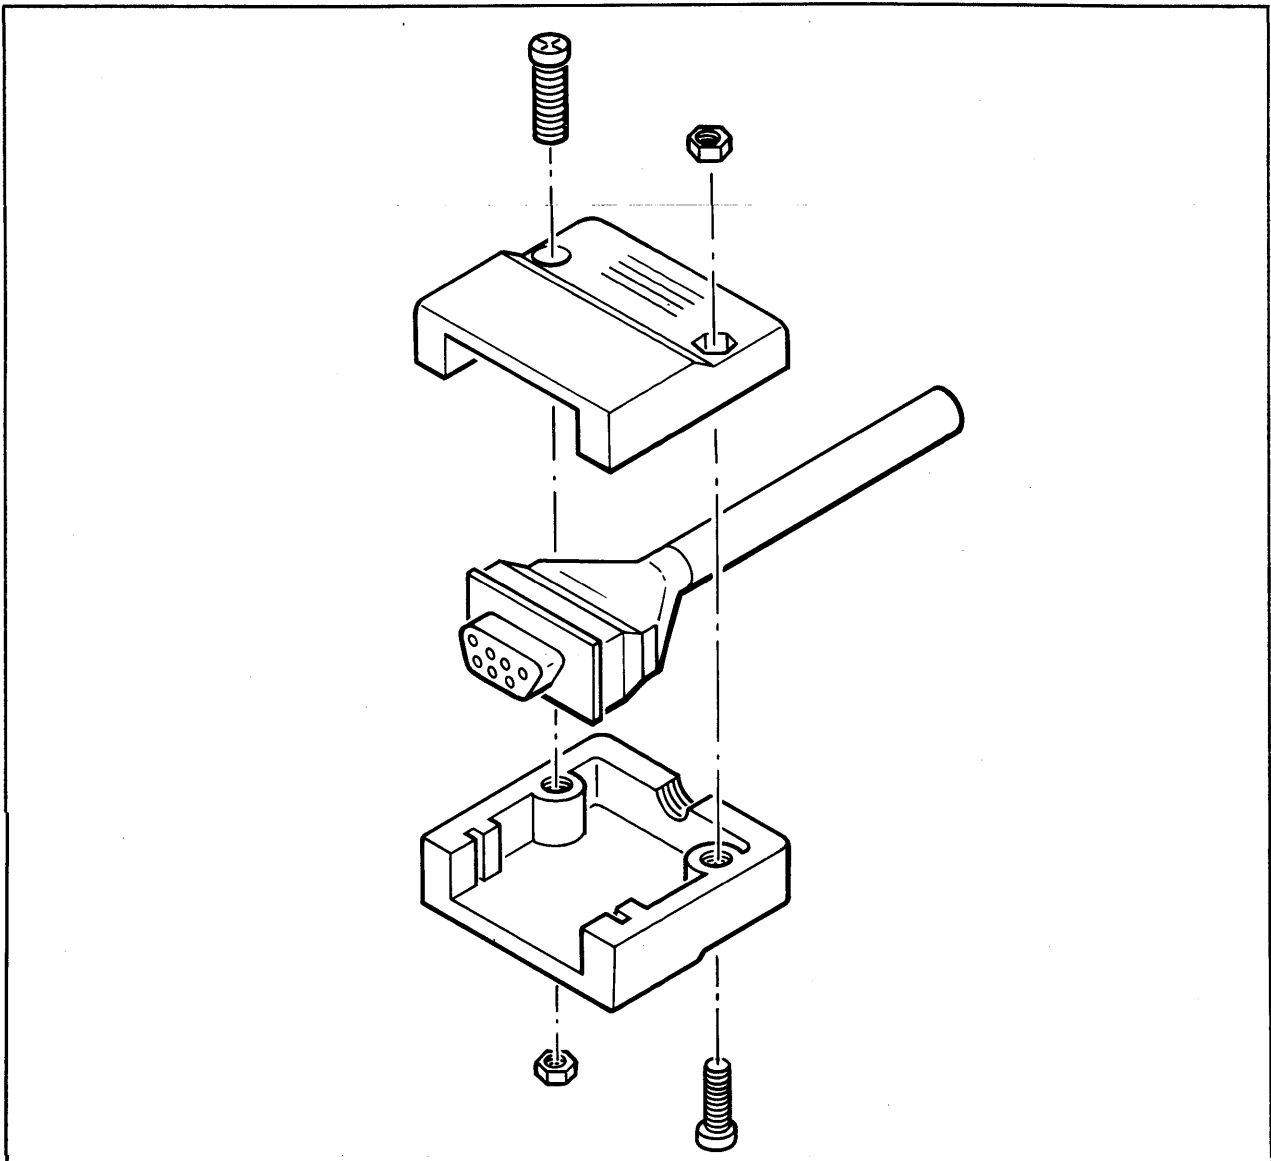

Figure D-16. ATP 5-Wire Shell Assembly Details
6. Assemble the connector housing with two screws as shown in Figure D-16.